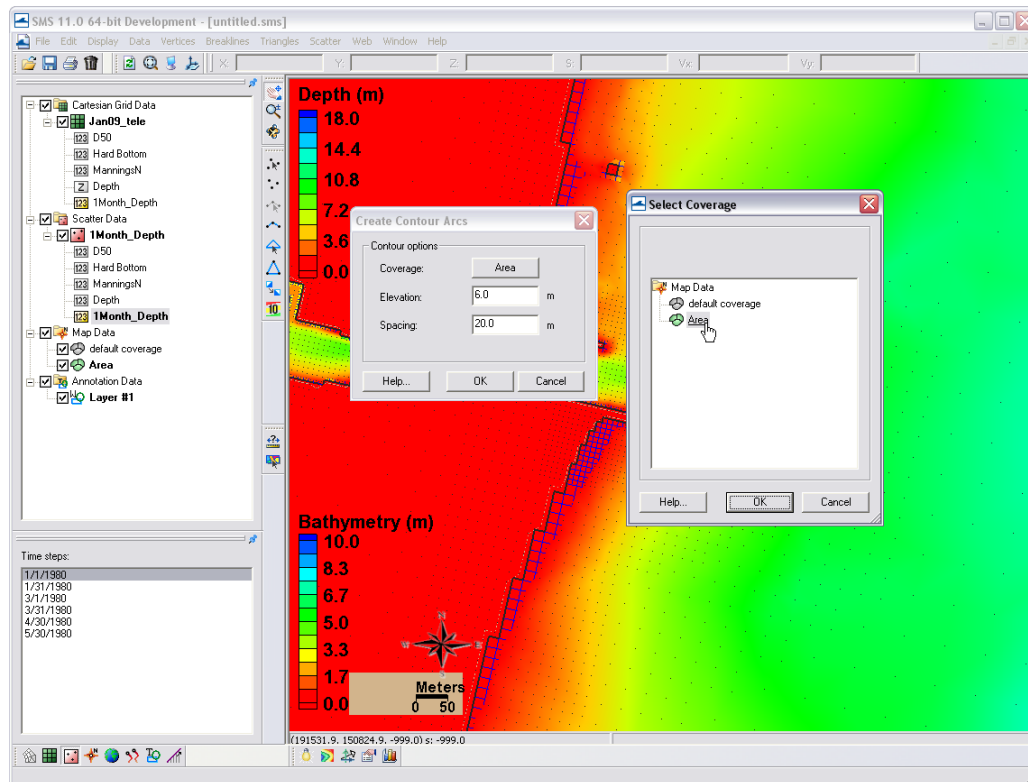

Figure 8.4.9. Mapping a scatterset contour to the map module.
5. Select the *1Month_Depth* Scatterset (*Scatter Module* should be on) and the first time stamp (1 Jan), and go to *Data|Scatter Contour -> Feature*. Choose an elevation to map (6.0 m), a spacing of the points in the resultant arc, and select the Map Coverage ('Area' in Figure 8.4.9) that the arcs are created in.